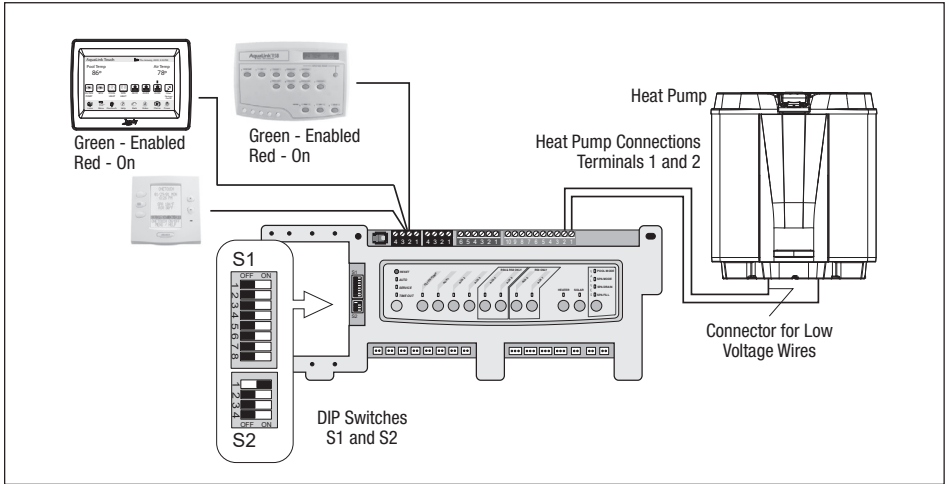

Figure 12. AquaLink® RS to Jandy JRT Heat Pump - T-Stat (2 wire) connection
3. Run the wires from the pool/spa control system into the conduit connection labeled "Low Voltage Connection", located on the lower right hand side of the heat pump (see Figure 12). Ensure conductors are not pinched or damaged.